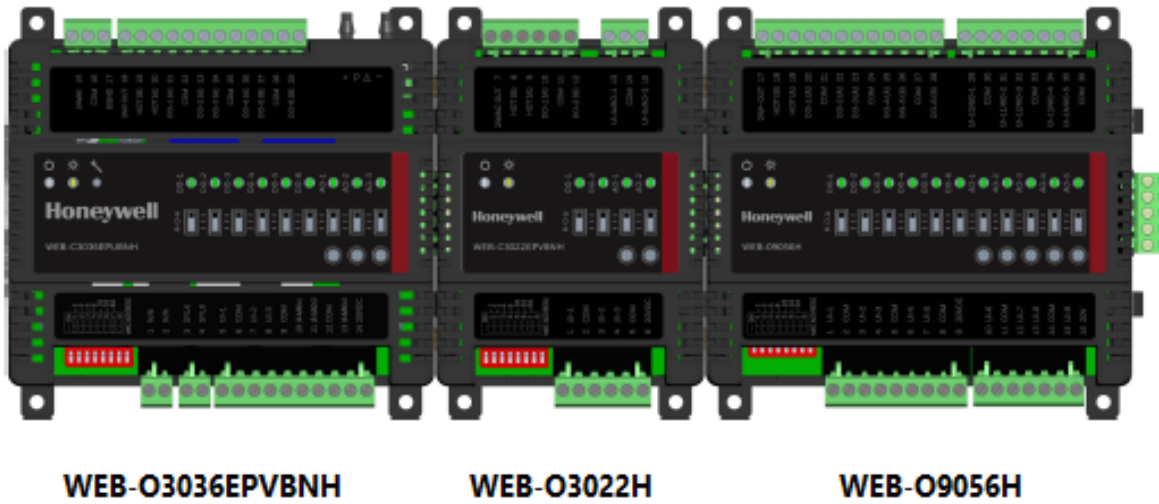

Fig. 3 Stacked Controller and IO modules
- 5 Both type of I/O modules WEB-O3022H and WEB-O9056H can be connected directly to the WEB-C3036EPVBNH controller as shown in Fig. 3.